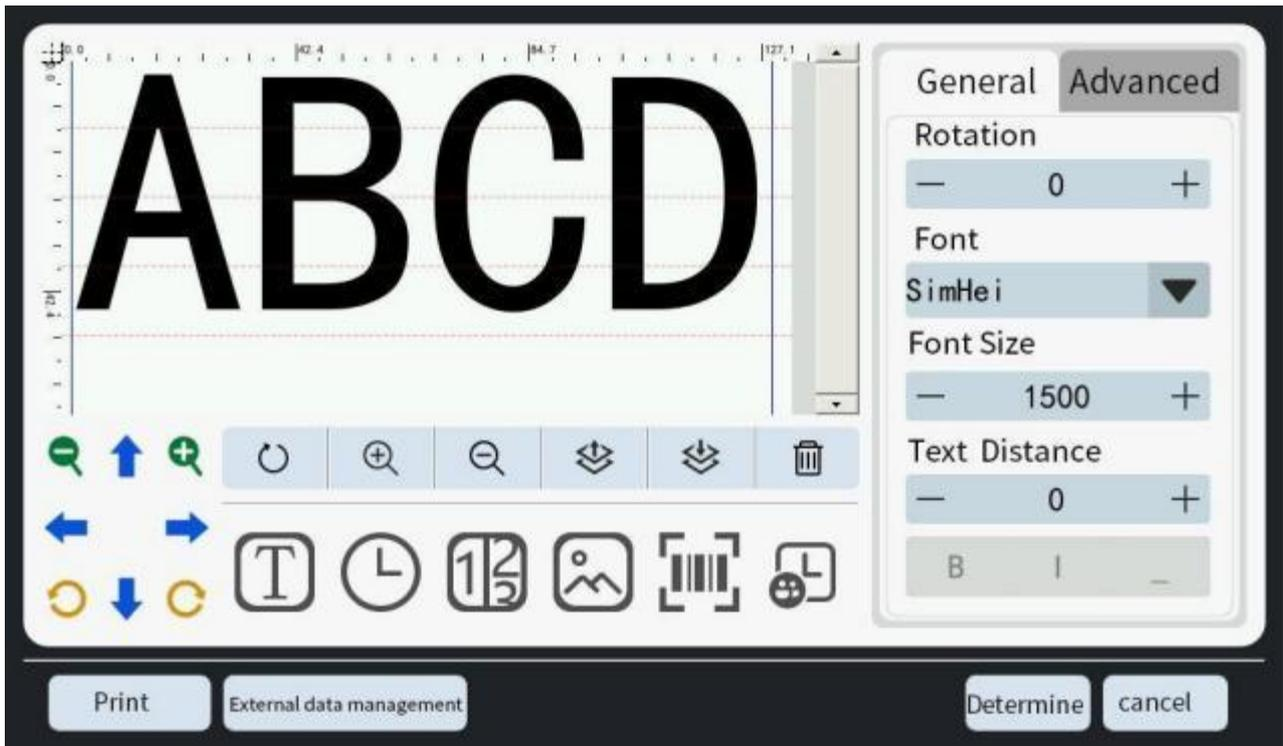

Figure 7-9
1. Clicking the "Create File" button in the main interface and selecting "Text", then enter the letter "ABCD" in the content box in the advanced option of "Information Attribute Area" on the right, and adjust the font size to **1500** in the general option, other parameters remain unchanged. As shown in Figures 7-9.